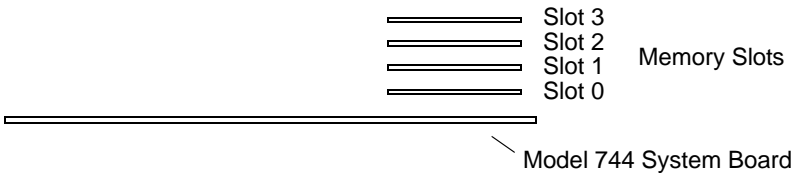

Figure 3-1 **Model 744 Memory Slots**
- 2 To determine the maximum current usage of the Model 744 memory cards, either use Figure 3-1 and Table 3-2 (for Model 744/132L) or Table 3-3 (for Model 744/165L). You must work with the worst case power draw to correctly determine power usage. Determine worst case power draw by examining active memory bank configurations, using the following steps: